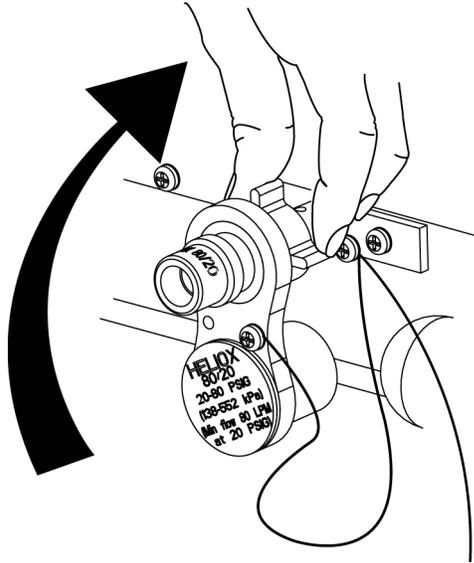

Figure 3.41
4. Align the Heliox smart connector with the Smart connector receptacle on the left side of the AVEA back panel from which you removed the Air connector. Tighten down the collar of the gas port onto the Heliox fitting. (Figure 3.41)